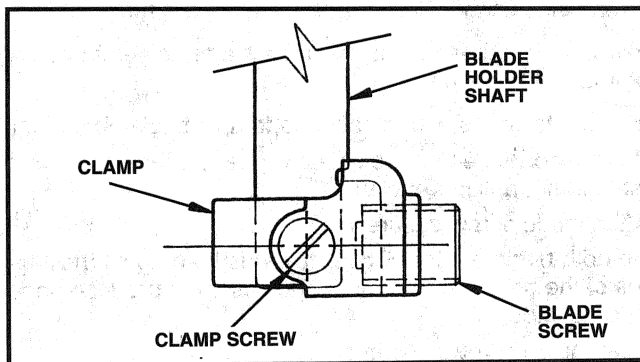

Fig. 3
1. Loosen blade screw, Fig. 3, approximately two turns. Loosen clamp screw six to eight turns and remove clamp.
**NOTE:** The clamp may be repositioned to accept Porter-Cable “Hook” blades by repeating steps 1 and 2 and positioning clamp as shown in Fig. 3. The clamp screw must be tightened securely when using “hook” type blades.